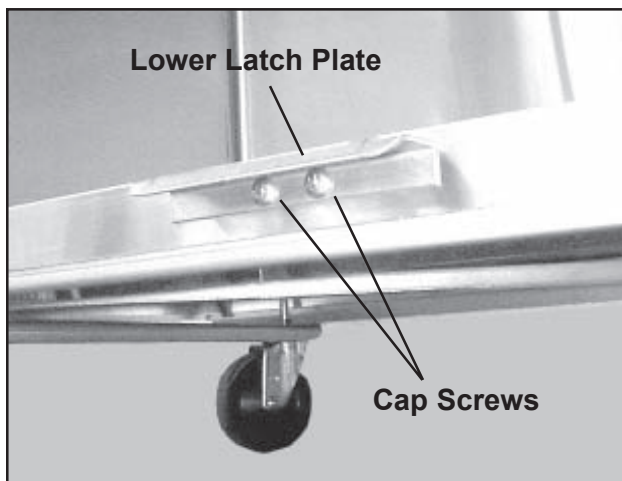

Figure 22. Removing the Lower Latch Plate
1. If this is a double-door cage, remove the two cap screws that hold the lower latch plate, and remove the plate (Figure 22).
5. If this is a double-door cage, loosely replace the lower latch plate but do not tighten the cap screws (Figure 22).